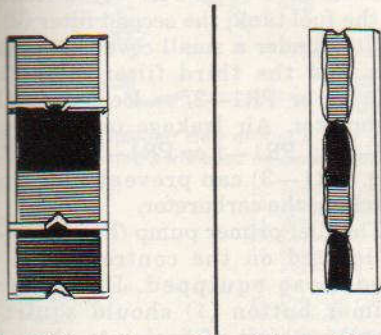

Fig. 32—Views of worn integral star and floating rim sprockets.
**FAILURES AND CAUSES.** Drive sprockets are, like any moving part subject to extreme friction, subject to wear. A worn sprocket can quickly damage the bar and the chain. The illustrations in Fig. 32 are typical examples of worn sprockets which should be renewed to keep from damaging the bar and chain. Wear on the sprocket teeth can be caused by any of the following: